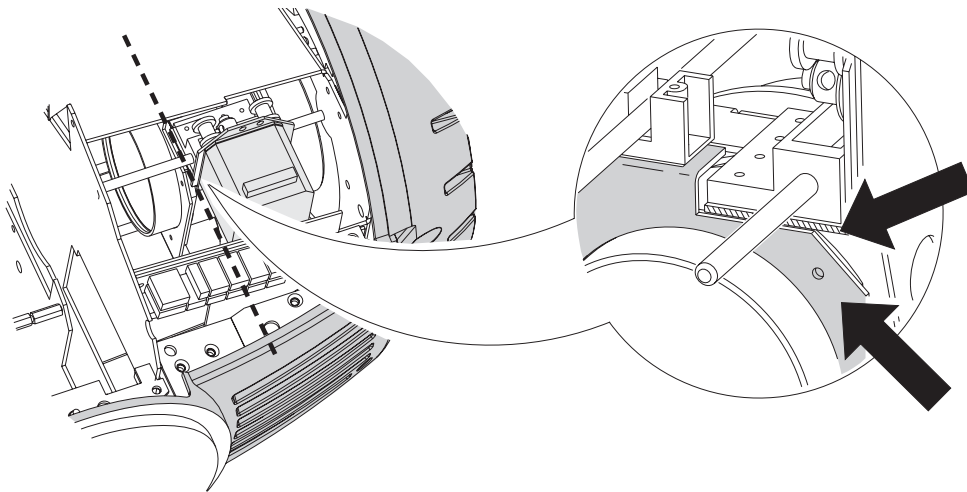

Figure 6: Zoom calibration point
- 2 To calibrate zoom, first remove the bottom head cover. Select `UTIL→CAL→ZOOZ` and press [Enter]. Adjust the offset until the face of the zoom lens plate is flush with the back edge of the focus plate (Figure 6). Press [Enter] to save the setting. Replace the bottom head cover.